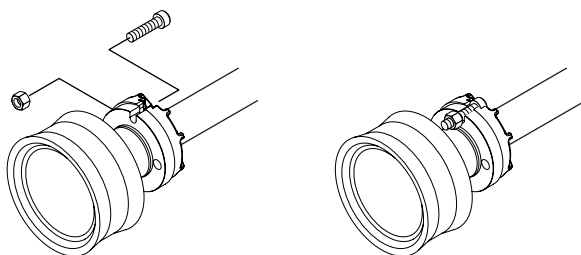

Figure 20
9. There is a groove in the ram flange that will line up with a groove in the cylinder flange. The M12 x 45 bolt with nut will drop into this groove and allow you to pull the ram out. The fit should be snug, but there is no need to tighten the nut with tools (Figure 20). The ram flange and cylinder flange are shown outside of the waterbox for clarity of the illustration.